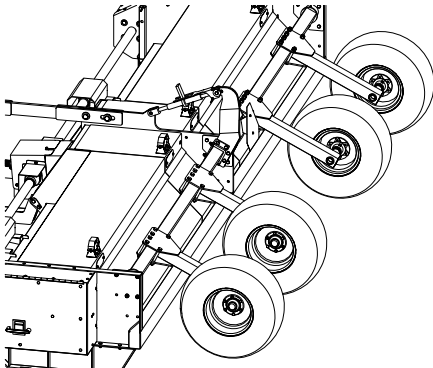

Figure 45. Wheel Assembly Installed
6. Install the wheel assembly to the mounting tube (Figure 45). Offset struts may be required (see Wheel Assembly parts starting on page 58).